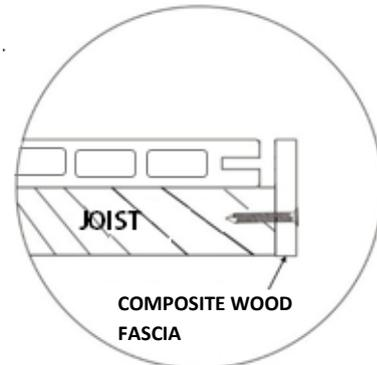

Figure 11
2. The fascia must be installed as shown on diagram figure 11.